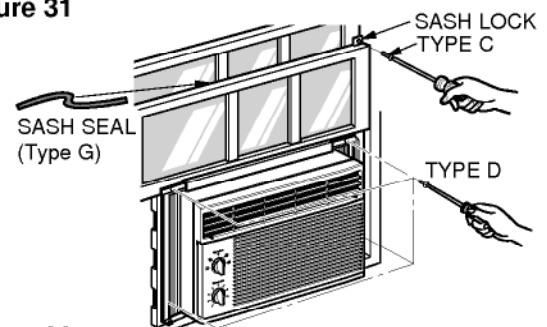

Figure 32
Extend the guide panels to fill the window opening using 4 screws (TYPE D) to secure them, as shown in Figure 32.
- a. Cut the sash seal to the window width. Stuff the sash seal between the glass and the window to prevent air and insects from getting into the room, as shown in Figure 32.
- b. Fasten the sash lock using a TYPE D screw, as shown in Figure 32.